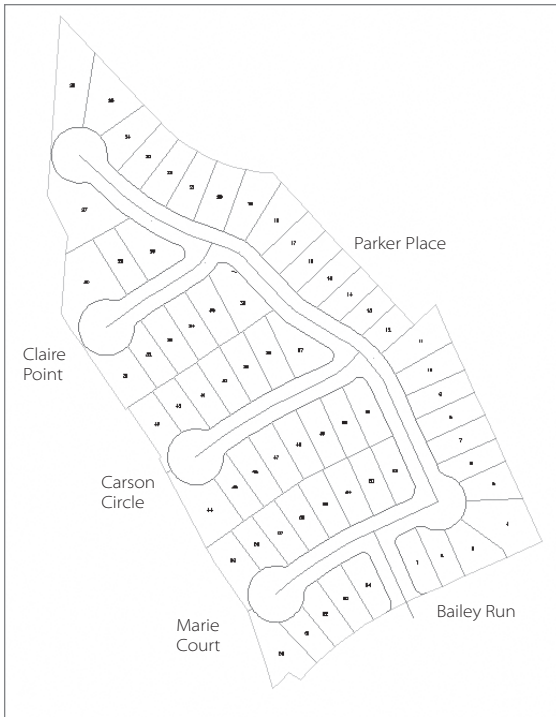

Figure 8.1
1. Open the `Converting Alignments.dwg` file. (Remember, all the data for this book can be downloaded from [www.sybex.com/introducingcivi13d2009](http://www.sybex.com/introducingcivi13d2009).) Figure 8.1 shows the layout and the street names you'll be referring to in this series of exercises.
To practice converting this method a few more times, convert the three other major streets in the subdivision using the same commands and settings. Be sure to change the names as previously shown in Figure 8.1. When you’re done, your drawing should look something like Figure 8.3.